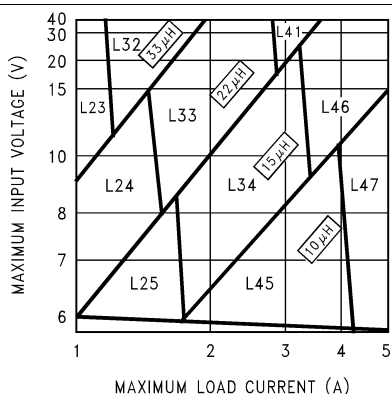
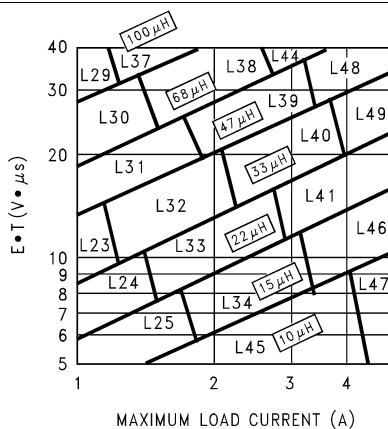

Figure 14. LM2679-3.3 V
Figure 17. LM2679-Adjustable Voltage
Step 3: Determine the inductor required by using one of the four nomographs, Figure 14 through Figure 17. Table 3 provides a specific manufacturer and part number for the inductor.
Step 5: Determine an input capacitor from Table 7 and Table 8 for fixed output voltage applications. Use Table 1 and Table 2 to find the specific capacitor type. For adjustable output circuits select a capacitor from Table 1 and Table 2 with a sufficient working voltage (WV) rating greater than $V_{IN\ max}$, and an RMS current rating greater than one-half the maximum load current (2 or more capacitors in parallel may be required).
Step 3: Use the nomograph for the 3.3-V device, Figure 14. The intersection of the 16 V horizontal line ($V_{IN\text{ max}}$) and the 4 A vertical line ($I_{load\text{ max}}$) indicates that L46, a 15- μH inductor, is required.